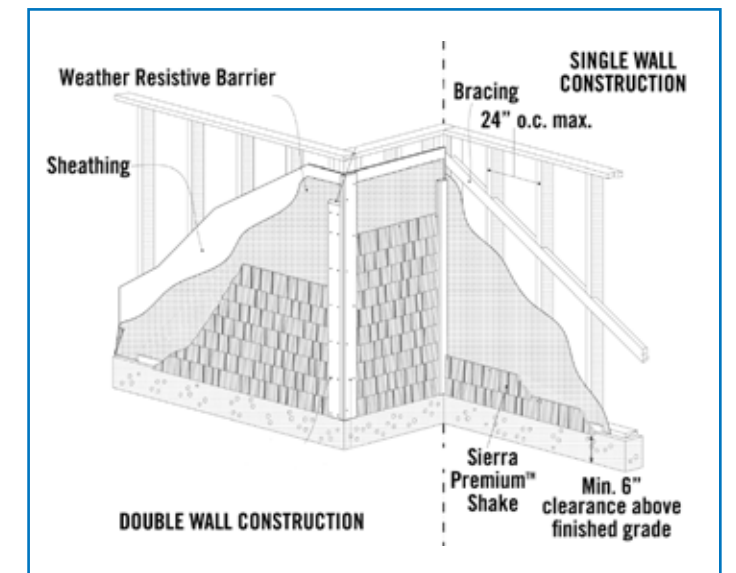

Fig. 4.1
- Sierra Premium™ Shake and Smooth boards can be installed directly on braced wood construction spaced at a maximum of 24" o.c. or over sheathing with solid wood backing. Correct any misaligned framing as irregularities may mirror through finished application. (Fig. 4.1)